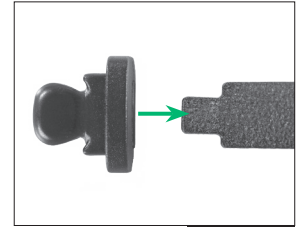

FIGURE 1
1. Attach a plastic tip on each one of the limbs and then pass the limb through the opening in the front of the stock. Once completed, attach the remaining plastic tip to the other end of the limb, pressing firmly to ensure both tips are firmly seated. (Fig. 1). Tap on a solid surface to seat all the way onto the limb.